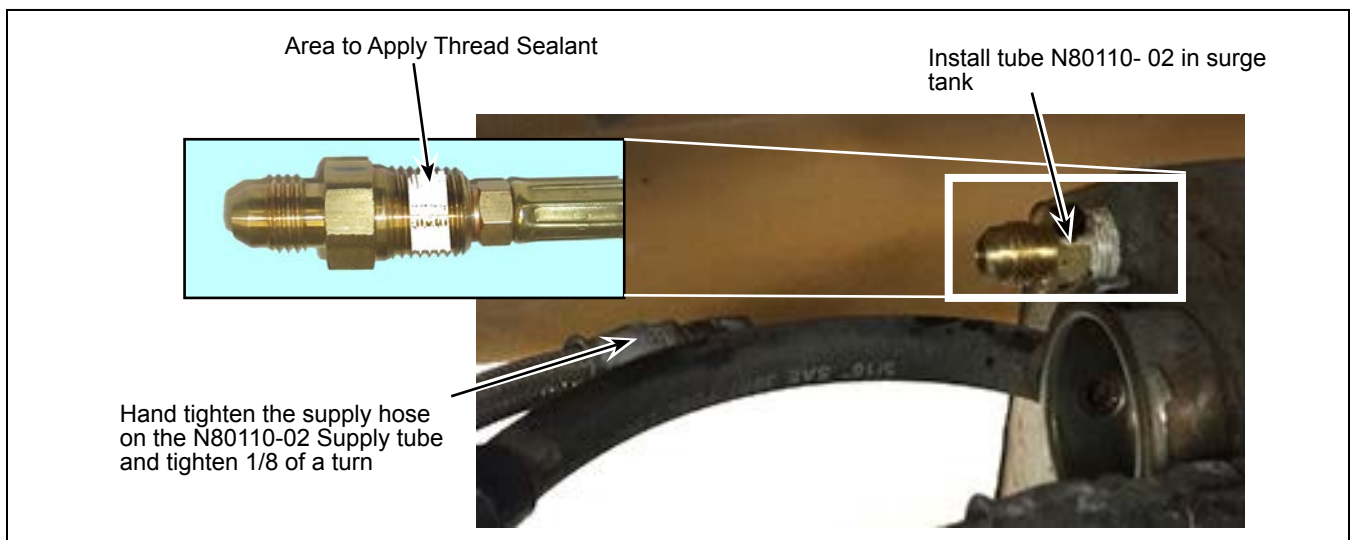

Figure 5 - Supply Tube N80110-02 Installed
- 1.10. Remove the protective caps and identification tag, then apply a thin coat of thread sealant on the threads of the new N80110-02 supply tube fitting. See Figure 5.
- 1.11. Hand tighten the new N80110-02 supply tube on the surge tank and, with a wrench, make 1/2 of a turn to fully tighten. See Figure 5.
- 1.12. Hand tighten the supply hose on the supply tube adaptor and, with a wrench, make 1/8 of a turn to fully tighten. See Figure 5.